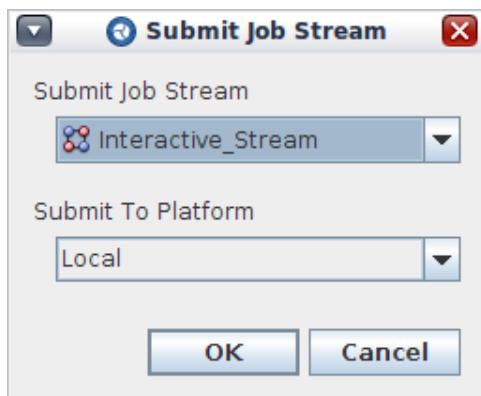

Figure 5.38. Submit Job Stream Dialog
- Select "**Submit Job...**" from the **Tools** menu. This opens the dialog shown in Figure 5.38, "**Submit Job Stream Dialog**". This dialog allows the user to select both the stream to submit and the platform to which it will be submitted. Pressing the **OK** button submits the stream.